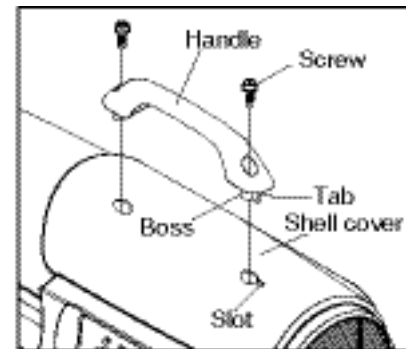

Figure 6. Handle Assembly
A. For RMC-KFA65TDLX Model only (See Figure 6,7)
- 1) Align boss on bottom of handle with the 2 holes on the shell cover as shown in Figure 6